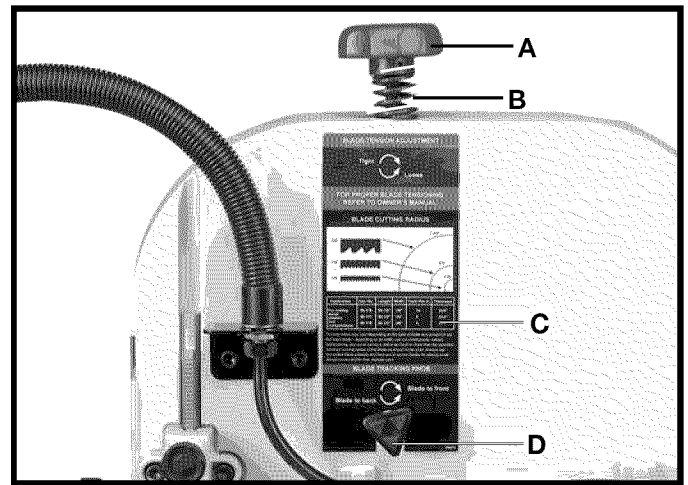

Fig. 24
2. After the desired blade is assembled to the two band saw wheels, turn tension knob (A) Fig. 24, clockwise until spring (B) begins to compress.
3. Turn tension knob (A) Fig. 24, an additional 2-1/2 complete turns for 1/8" wide blades; 3 complete turns for 1/4" wide blades; and 4 complete turns for 3/8" wide blades.
4. There is a convenient chart (C) Fig. 24, at the rear of the band saw displaying blade choice and the minimum radius which can be cut with each blade.
4. If an adjustment is necessary, **SLIGHTLY** turn blade tracking knob (D) Fig. 24, clockwise to move the blade to the rear, and counterclockwise to move the blade to the front. **NOTE:** Very little movement of the blade tracking adjusting knob (D) is necessary to permit the blade to move.